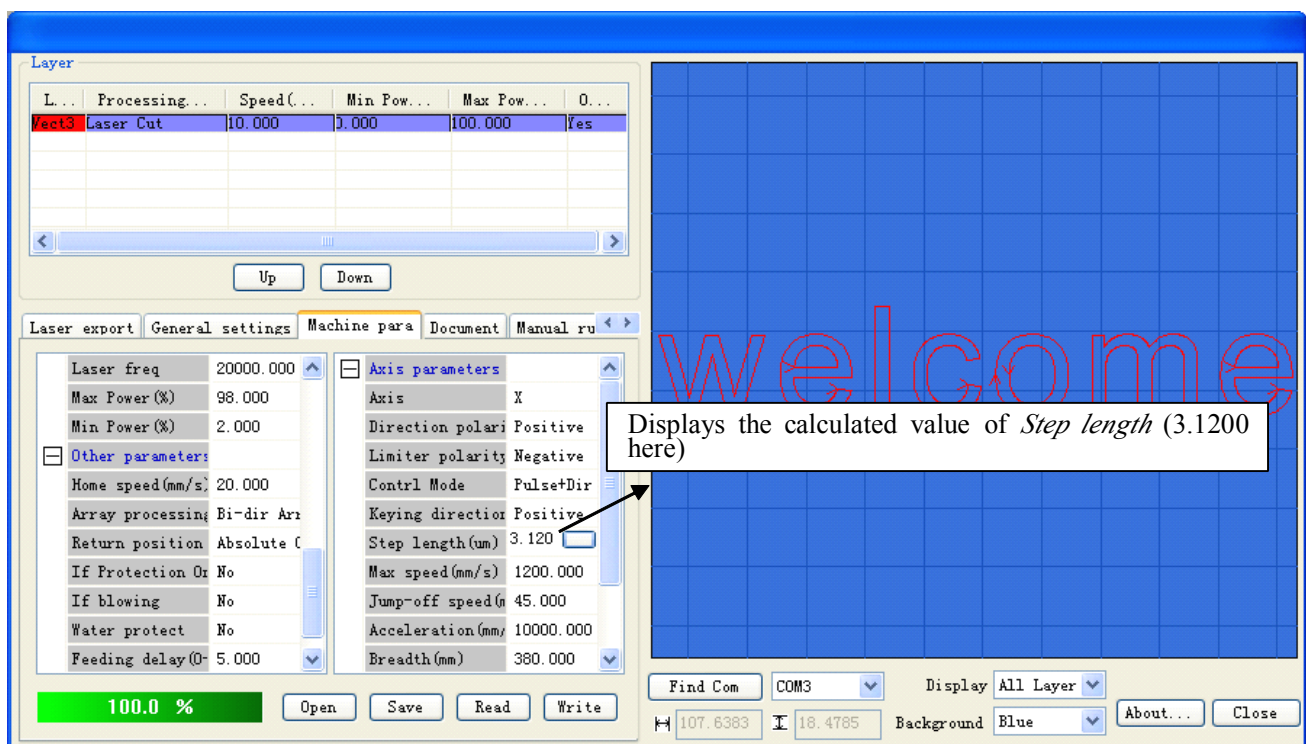

Figure 1-56
- ⑤ Click on the *OK button* in Figure 1-55, the menu as shown in Figure 1-56 will appear: